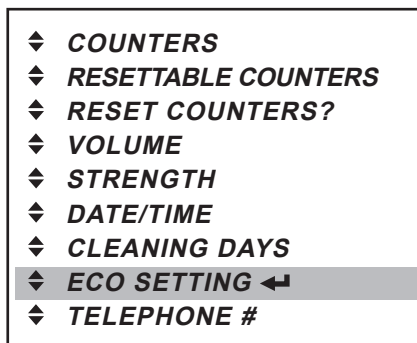

Fig. 39
- Press the enter button ↵ to access the «ECO SETTING» menu (fig. 39).